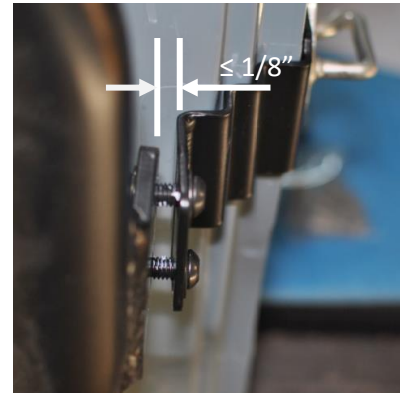

Figure 11: Gap Between Bracket and Product
- g. There should be a small gap at the center bracket before tightening (0-1/8"). If the gap is larger than 1/8", use the provided 1/8" washers as shims (PN 70448) to close the gap to  $\leq 1/8"$  (See Figure 11).